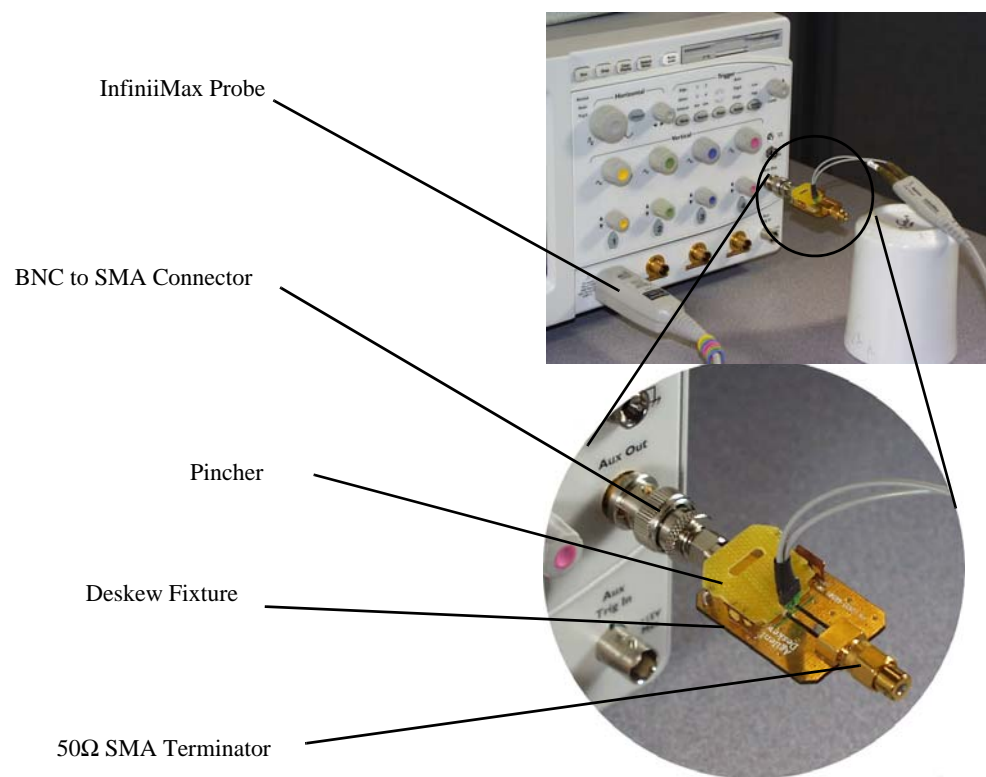

Figure 42 Connecting the Probe and Deskew Fixture
- 1 As shown in **Figure 42** on page 69, connect BNC (male) to SMA (male) adaptor to the deskew fixture on the connector closest to the yellow pincher.
For the following procedure, refer to **Figure 42** on page 69.